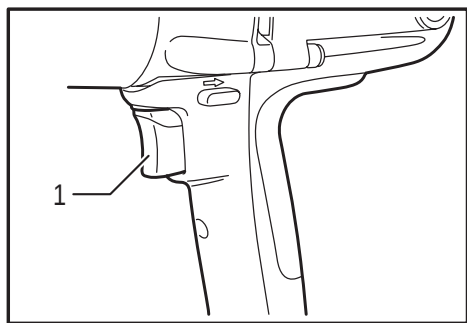

Fig.1
► **Fig.1:** 1. Switch trigger